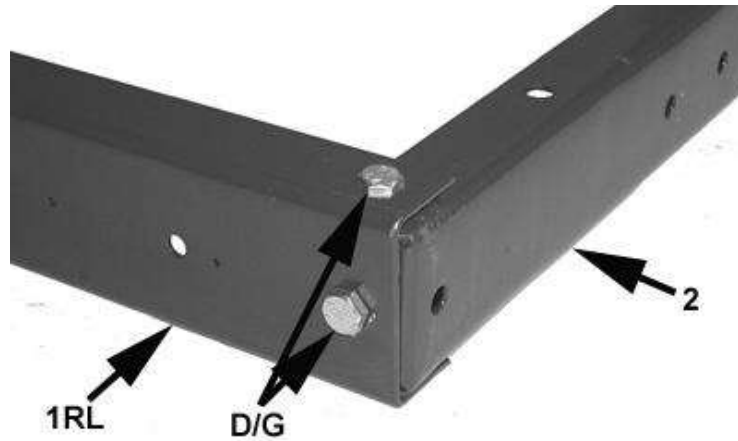

Figure 3-4
4. Verify that the rear cross member (2) is positioned with the opening the channel facing the front of the trailer. See figure 3-4. *Note: If trailer is equipped with a tailgate, cross member must be installed with tailgate brackets on the top. See figure 11-2.*
5. Connect rear cross member (2) to left frame rail (1RL) with M10 x 20 bolts (D) and M10 nylon lock nuts (G). See figure 3-4.